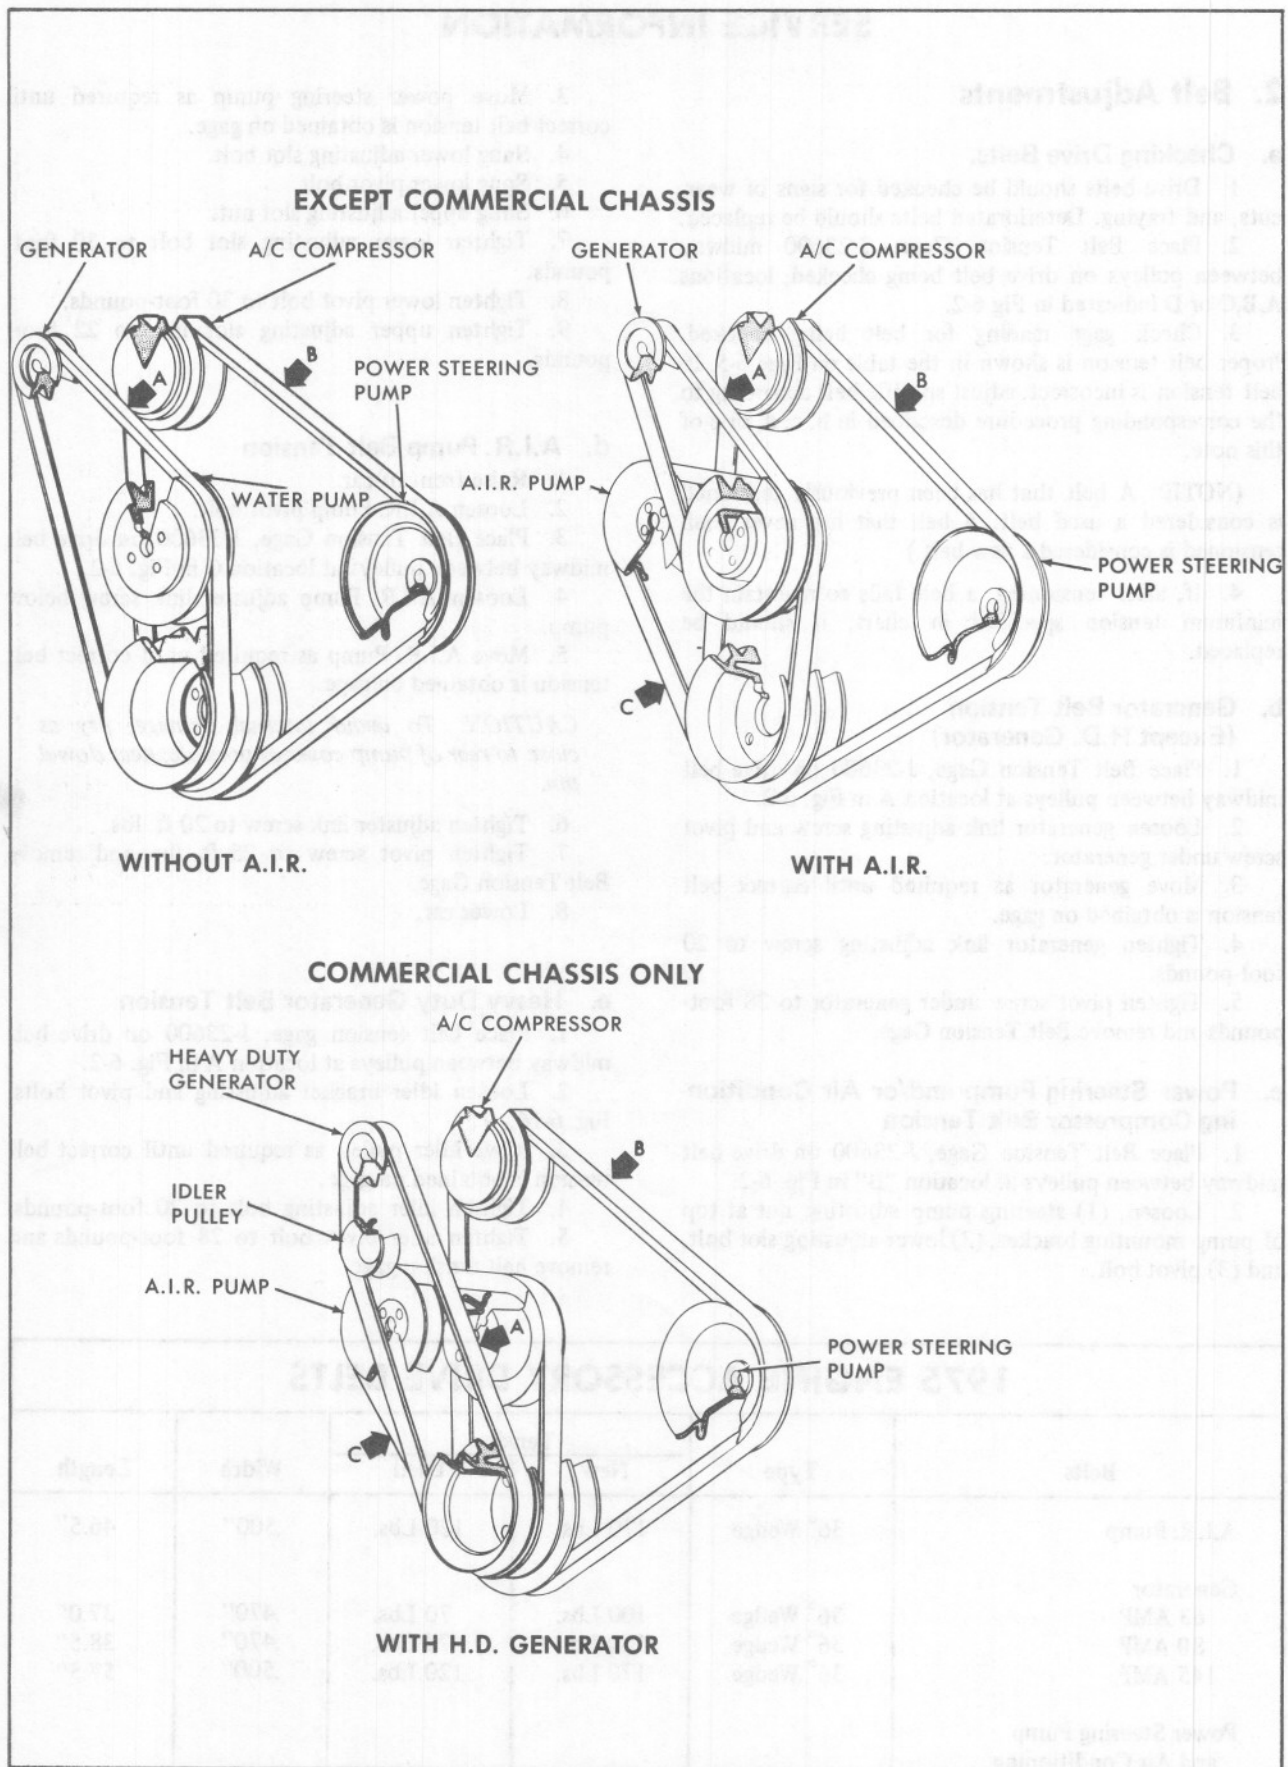

Fig. 6-2 Belt Tensioning
f. A new arrangement of the engine drive belts is shown in Fig. 6-2.
2. Place Belt Tension Gage, J-23600 midway between pulleys on drive belt being checked, locations A,B,C or D indicated in Fig 6-2.
1. Place Belt Tension Gage, J-23600 on drive belt midway between pulleys at location A in Fig. 6-2.
1. Place Belt Tension Gage, J-23600 on drive belt midway between pulleys at location "B" in Fig. 6-2.
2. Loosen, (1) steering pump adjusting nut at top of pump mounting bracket, (2) lower adjusting slot bolt, and (3) pivot bolt.
3. Place Belt Tension Gage, J-23600 on drive belt midway between pulleys at location C in Fig. 6-2.
1. Place belt tension gage, J-23600 on drive belt midway between pulleys at location A in Fig. 6-2.